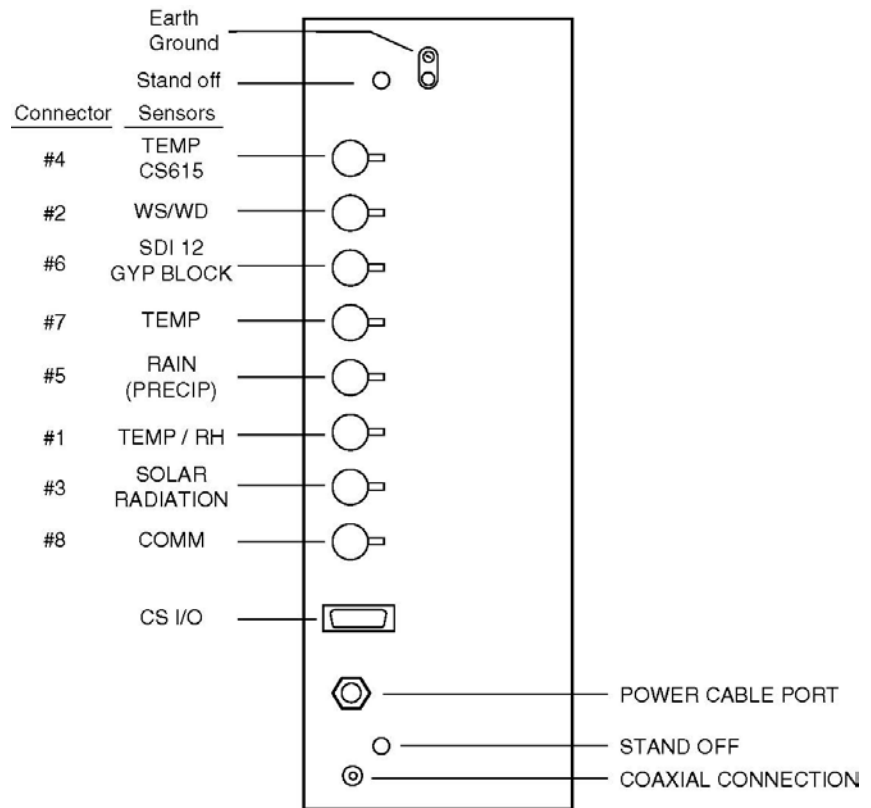

FIGURE 3-6. Position of Sensor Bulkhead Connectors
- 2) Remove the protective connector cover from the back of the ET Enclosure by removing the two Phillips head screws. Sensors connect to one of seven labeled bulkhead connectors as shown in FIGURE 3-6.